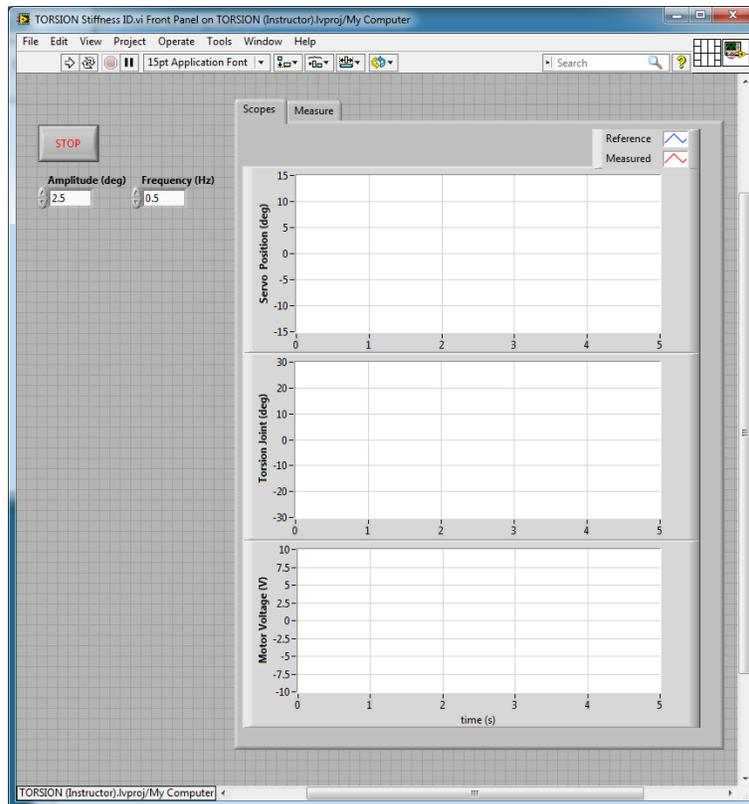

Figure 2.3: VI used to find stiffness
The *TORSION Stiffness ID* LabVIEW Virtual Instrument (VI) shown in Figure 2.3 is used to find the natural frequency of the torsion unit. This VI feed a short 2V step input to the Rotary Servo and outputs the measured torsion module angle.
1. In *TORSION (Student).lvproj*, open the *TORSION Stiffness ID VI*. The VI front panel is shown in Figure 2.3. Make sure the VI is configured for your data acquisition device, as explained in Section 4.2.